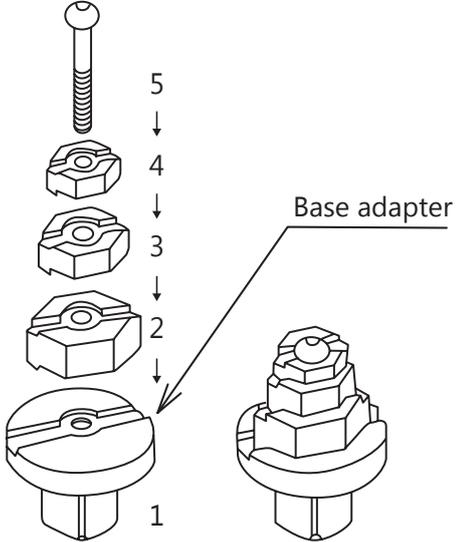

Fig. 1 Completed figure
- Adapters with hexagon heads are free to be combined, allowing a free 3-piece combination according to the size of the torque wrench to be checked. *See Fig. 1.
Select three hexagon head adapters that are frequently used from the supplied adapters. Assemble the three adapters onto the fixed base and tighten them with the fixing screws. Then, place the assembled adapters onto the holder on the left side of the checker. * See Fig. 1